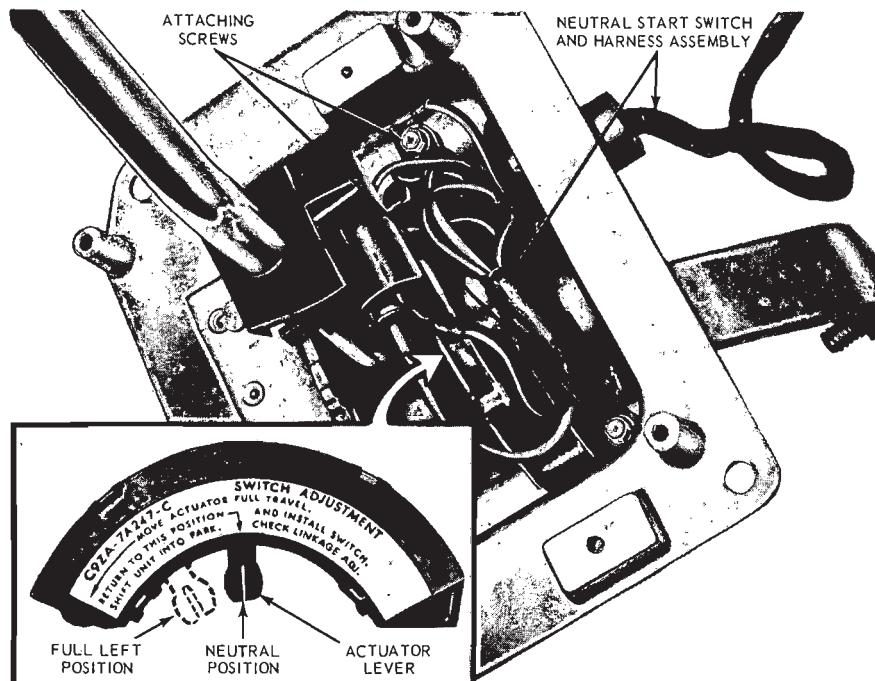

FIG. 11—Neutral Start Switch—Console Shift—Mustang-Cougar
6. Lift the switch from the housing and move the actuator lever all the way to the left. Then, return the actuator lever to the neutral position as shown in Figure 11.
9. Remove the two screws securing the neutral start switch to the selector lever housing. Push the neutral start switch harness plug inward and remove the switch and harness assembly (Fig. 11).
10. Before installing the new switch, hold it with the wires facing downward and move the actuator lever all the way to the left. Then, return the actuator lever to the neutral position as shown in Figure 11.